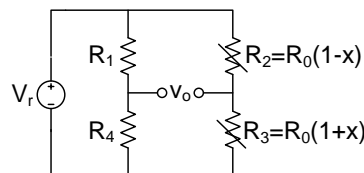
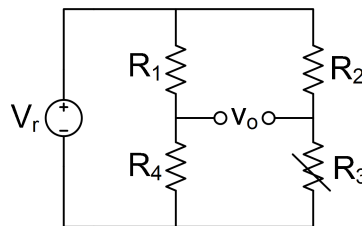

Figure 4: Electrical equivalent circuit of the MAP sensor.
Figure 5: Bridge with one strain gauge.
Figure 4 shows the electrical equivalent circuit of such a MAP sensor with two strain gauges. In addition to the strain gauges, the circuit contains also two fixed resistors. The Young's modulus of the membrane, E , is equal to $210 \cdot 10^9 \text{ N/m}^2$. When unloaded, all four resistors have a resistance of 350Ω . The strain gauges have a gauge factor of 2.10. To prevent any damage to the strain gauges, the current through them should be limited to 10 mA.
- (c) The use of a bridge with two strain gauges might be too expensive for some applications. Therefore, the circuit shown in Figure 4 can be replaced with a circuit that contains only one strain gauge (see Figure 5). This strain gauge has a resistance of 350Ω when unloaded and a gauge factor of 2.10. The resistance of this strain gauge is given by $R_3 = R_0(1 + x)$. The maximal pressure that can be applied to this strain gauge is 98.0 MPa. The strain gauge is used in a bridge circuit with three fixed resistors (see Figure 5). The resistors R_1 , R_2 and R_4 all have a resistance of 350Ω . The supply voltage of the bridge, V_r , is equal to 7 V. The output voltage of this circuit will show a non-linearity because the circuit contains only one strain gauge. What is the maximal relative error when the output voltage